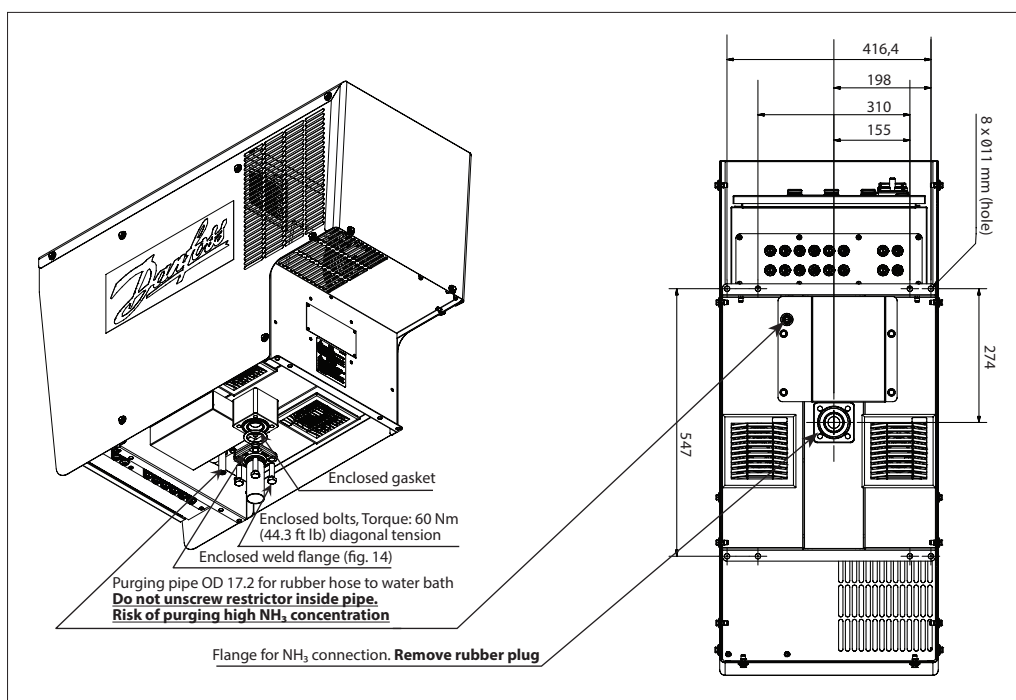
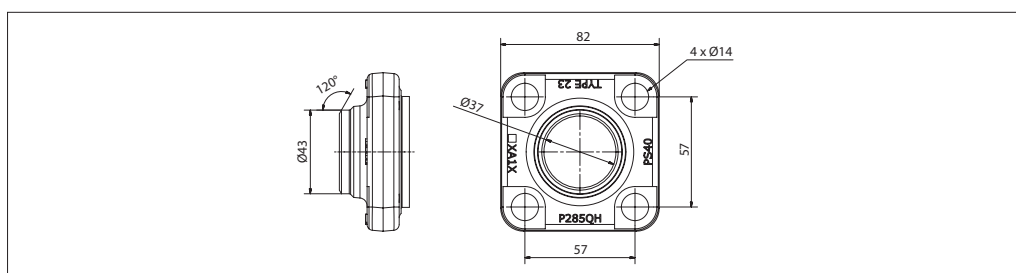

Fig. 13 Ammonia connection
Fig. 14 Enclosed weld flange
1. Prepare the ammonia pipework with the weld flange according to Fig. 13 and Fig. 14. The main/drain piping should never be smaller than inner diameter Ø37 mm (1.5 in).
**Remove the rubber plug from the flange opening. See Fig. 13.**